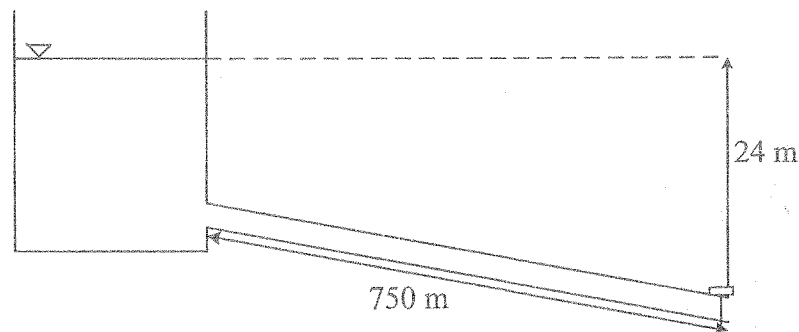

Figure Q6
- b) A 750 m long steel pipe with 0.4 m diameter and 5 cm wall thickness carries 350 l/s average flow rate of water (density  $1000 \text{ kg/m}^3$ , bulk modulus  $2.17 \text{ GPa}$ ) to a downstream location at 24 m below the reservoir free water surface. A valve is installed at the downstream end of the pipe to control the flow rate (Figure Q6). Kinematic viscosity of water ( $\nu = 1.31 \times 10^{-6} \text{ m}^2/\text{s}$ ) and Young's modulus of steel ( $E = 190 \text{ GPa}$ ).